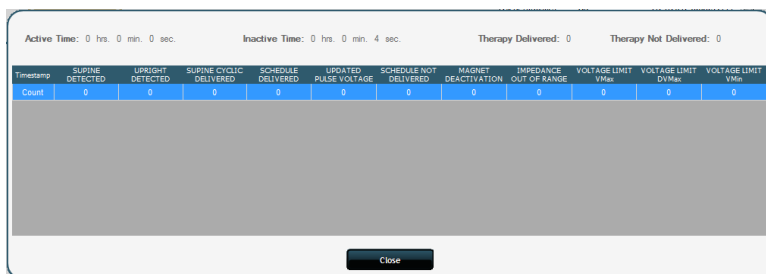

Figure 12 EndoStim Programmer Statistics Window
1. To access the IPG statistics, select the pull-down menu *Tools*→*Read Statistics* . The Statistics window opens (Figure 12).